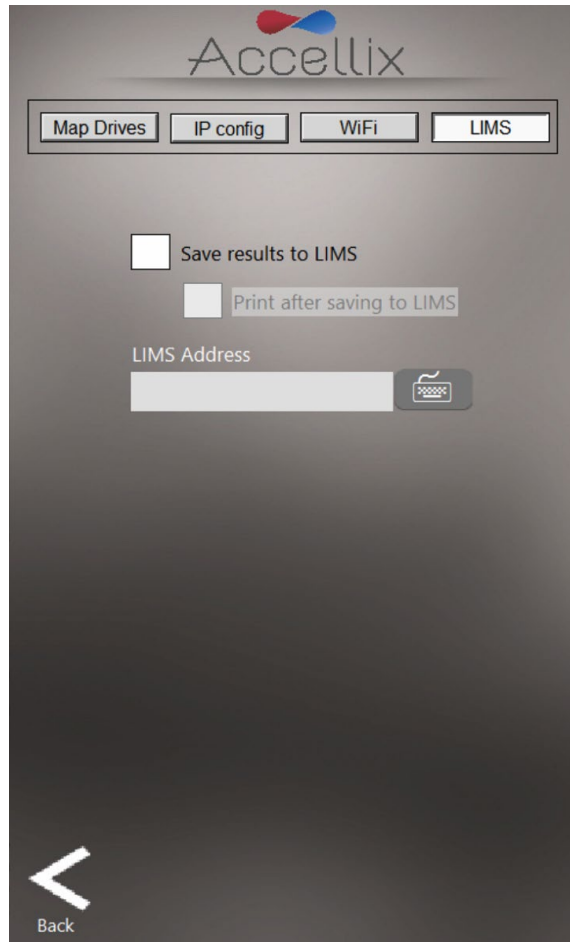

Figure 29: Network Screen: LIMS tab
4. To configure a system to save data to the LIMS system, select the LIMS tab (Figure 29) to enable the system to save data to the LIMS system: